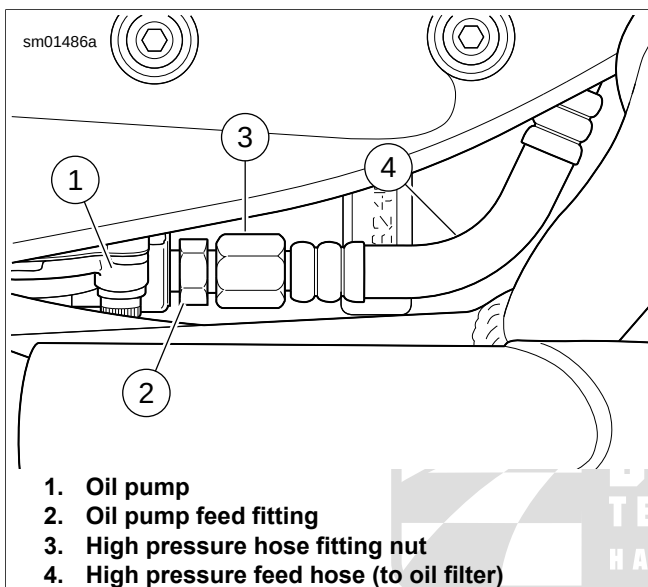

Figure 3-135. Oil Pump Feed Hose
See Figure 3-135. Do not remove oil pump feed fitting (2) from the pump (1). Hold oil pump feed fitting and loosen large high pressure hose fitting nut (3). Then remove high pressure hose (4) from oil pump feed fitting.
2. See Figure 3-135. Remove high pressure feed hose (4) from oil pump (1).
3. Install hoses on oil pump. Attach oil tank feed hose to hose fitting (5) with **new** clamp. Attach oil tank vent hose to elbow fitting (13) with **new** clamp.
4. See Figure 3-135. If oil pump feed fitting (2) was removed for any reason, install fitting in oil pump (1) cover. Tighten to 100-120 **in-lbs** (11.3-13.6 Nm).
5. If high pressure feed hose (4), was removed completely, install end opposite high pressure fitting nut (3) in crankcase. Tighten to 60-90 **in-lbs** (6.8-10.2 Nm).
6. Install high pressure feed hose fitting nut (3) onto feed fitting on front of oil pump. Hold oil pump feed fitting with a wrench and tighten high pressure hose fitting nut to 85-105 **in-lbs** (9.6-11.8 Nm).